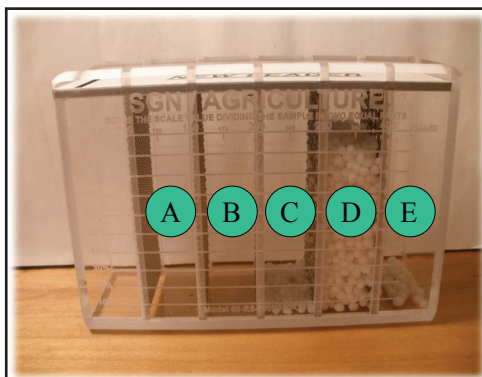

Figure 6
7. Figure 6 - View level of material in each compartment and determine SGN level based on markings.